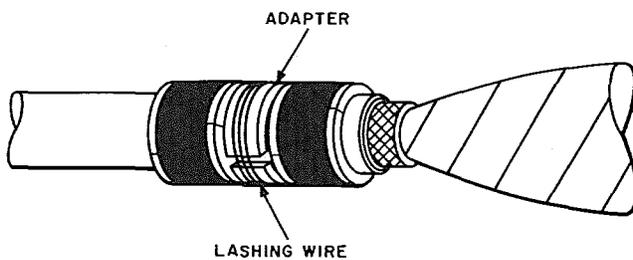

Fig. 16—Adapter Installed
- (1) Place spacers around inner clamp with ears of clamp centered in one of the spacers.
- (2) Bind down securely with three turns of lashing wire placed in the grooves provided in the spacers for that purpose (Fig. 16).